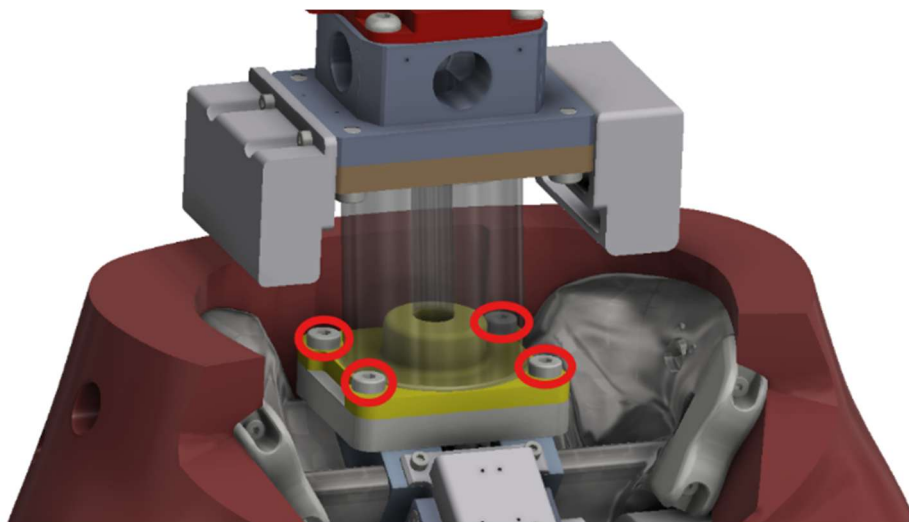

Figure 5-41. Use four M8 X 1.25 X 20 LG. SHCS to attach the Lumbar Assembly (474-3223-A)
- 5.3.4 At this time, attach the spine assembly (474-3200-A) to the pelvis (Figure 5-41). Use four M8 X 1.25 X 20 LG. SHCS to attach the Lumbar Assembly (474-3223-A), to the Pelvis Adaptor Plate (474-4004).